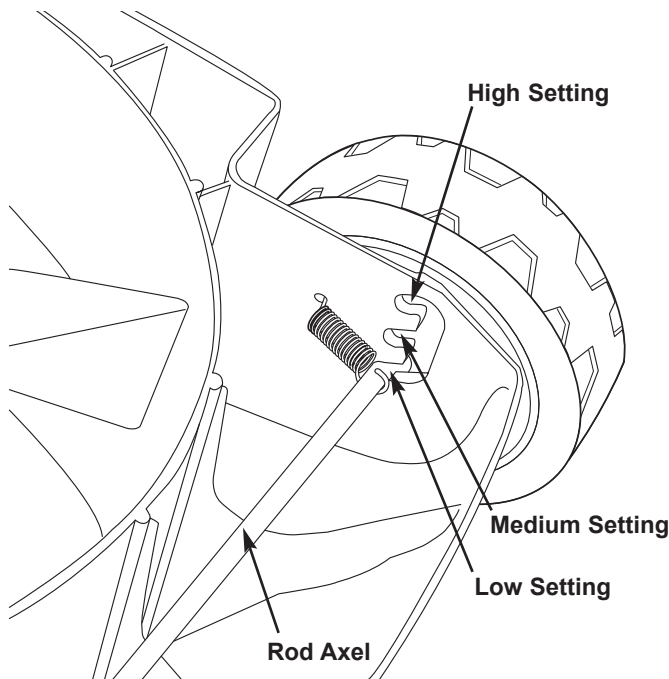

Figure 16
3. Place the lawnmower on one of its sides. (See Fig.16)